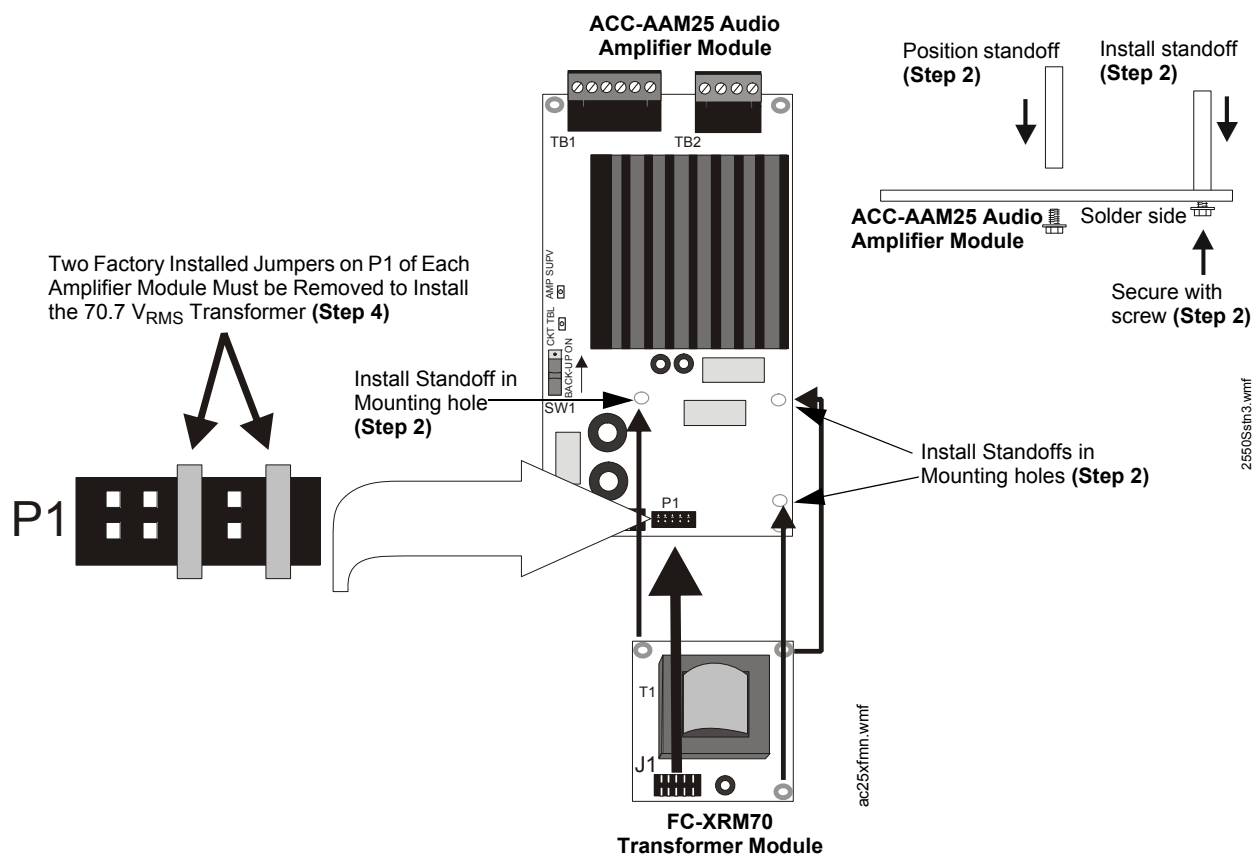

Figure 3.17 70.7 V_{RMS} Transformer Module Installation
- (1) Position switch S1 in the DOWN position for primary operation which adds the new amplifier's 25 watts to total system power (50 watts total).
- (2) Position switch S1 in the UP 'Backup On' position to configure the amplifier as a backup in the event the primary amplifier fails. **IMPORTANT!** ACC-25/50DAZS ONLY - Set SW1 on the ACC-ZSM to AAM1 for backup configuration.
7. Check to make certain the factory installed jumpers are in place on P1 of the Audio Amplifier Module(s). Do not remove unless installing the FC-XRM70 Transformer Module. See Figure 3.17 on page 48.
- Install the three standoffs supplied with the FC-XRM70 Module by inserting each supplied screw into the three holes on the solder side of the ACC-AAM25 Audio Amplifier Module(s). Secure each standoff in place with the screws. Refer to Figure 3.17 for the location of the mounting holes.
- Remove the two factory installed jumpers from connector P1 of the Audio Amplifier Module(s). Refer to the illustration in Figure 3.17.